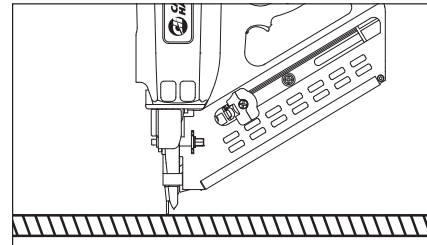

Figure 21
2. Press the WCE against the surface of the workpiece until it is in the fully depressed position (see Figure 21).